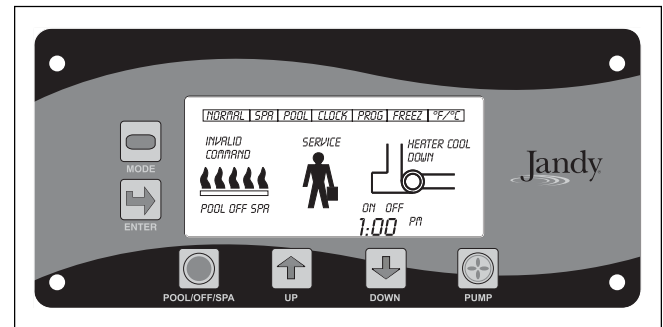

Figure 19. LJ controller display.
1. Turn the pump 'OFF' by pressing the PUMP key so that the display shows that the pump is 'OFF'. If the heater was running it should go off immediately and the pump will run in the 'COOL DOWN' mode for 5 minutes. If the heater has been running within the last 5 minutes, the pump will continue to run for the remainder of the 5 minute cool down period (see Figure 19).